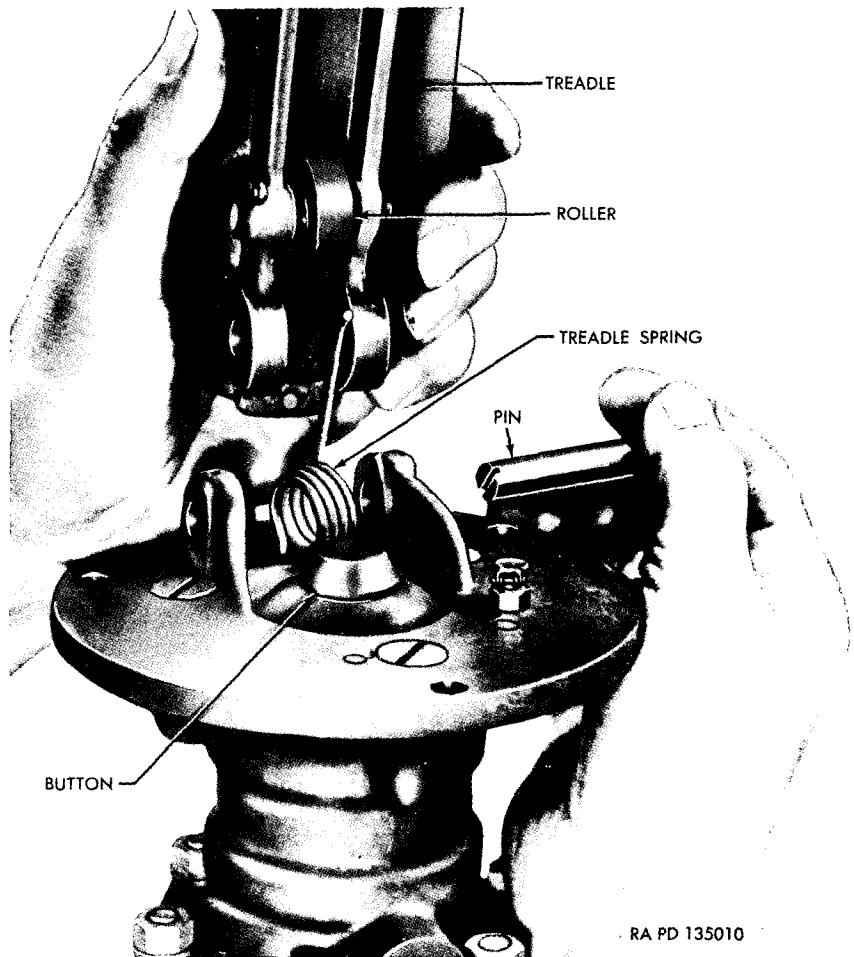

Figure 89. Removing treadle.
b. *Remove and Disassemble Treadle* (figs. 89 and 95). Remove cotter pin from end of treadle pin. Drive out treadle pin and remove treadle and treadle spring. If treadle roller is to be removed, remove cotter pin from end of roller pin. Drive out roller pin and remove roller.